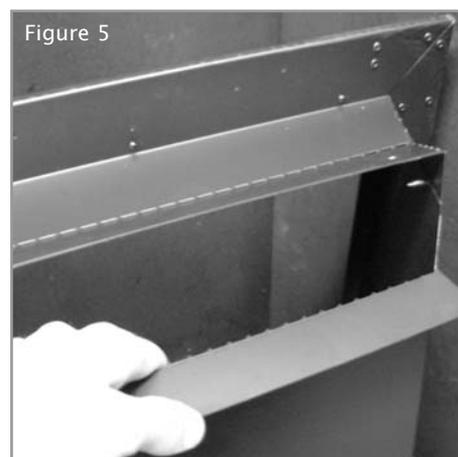

Figure 5
**SPIGOT RESTRICTOR :** If installing the fire into a Class 1 or good Class 2 flue, simply bend up (stitch bend join) the spigot restrictor into position in the flue outlet of the fire as shown in figure 5.